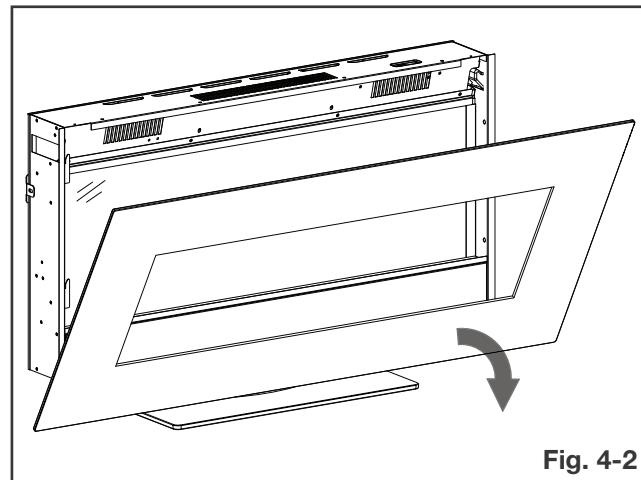

Fig. 4-2
- Carefully lift the front surround up and away from the appliance (**Fig. 4-2**). Place it face down on a soft, non-abrasive surface.